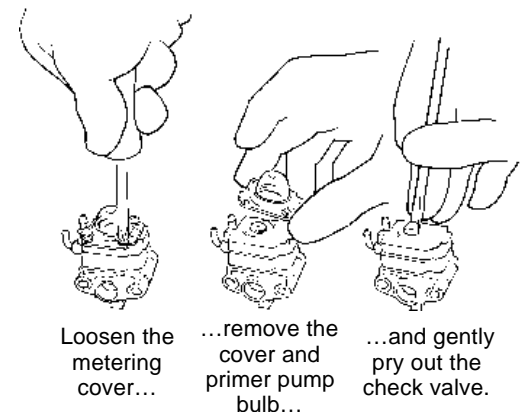

Figure 3.21 Servicing the check valve
STEP 1. Unscrew the four metering cover retaining screws, and then remove the cover, primer pump bulb (Figure 3.21), and the plastic purge body assembly.